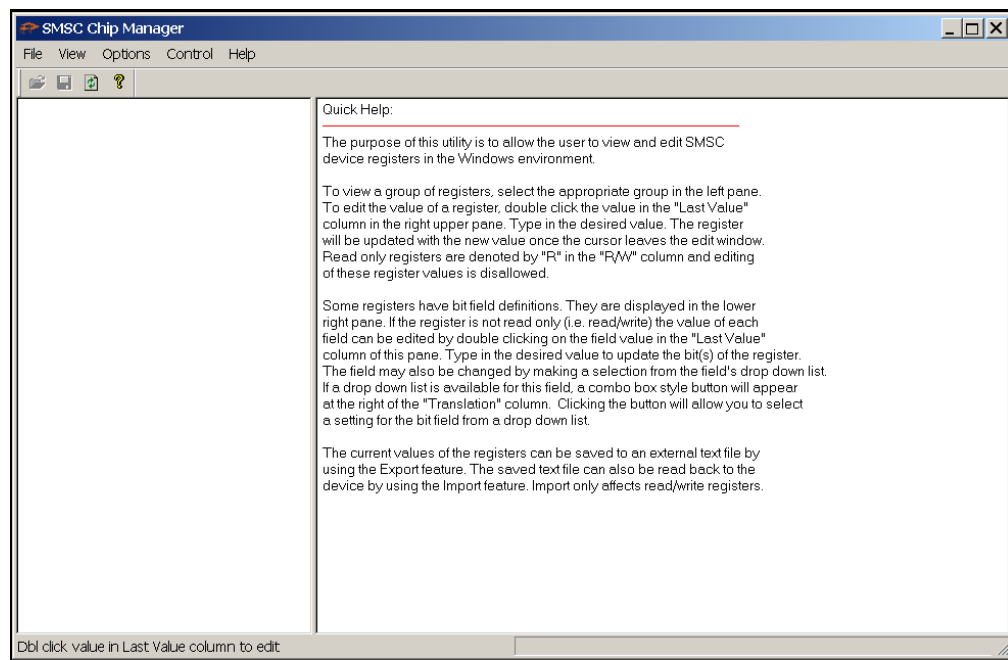
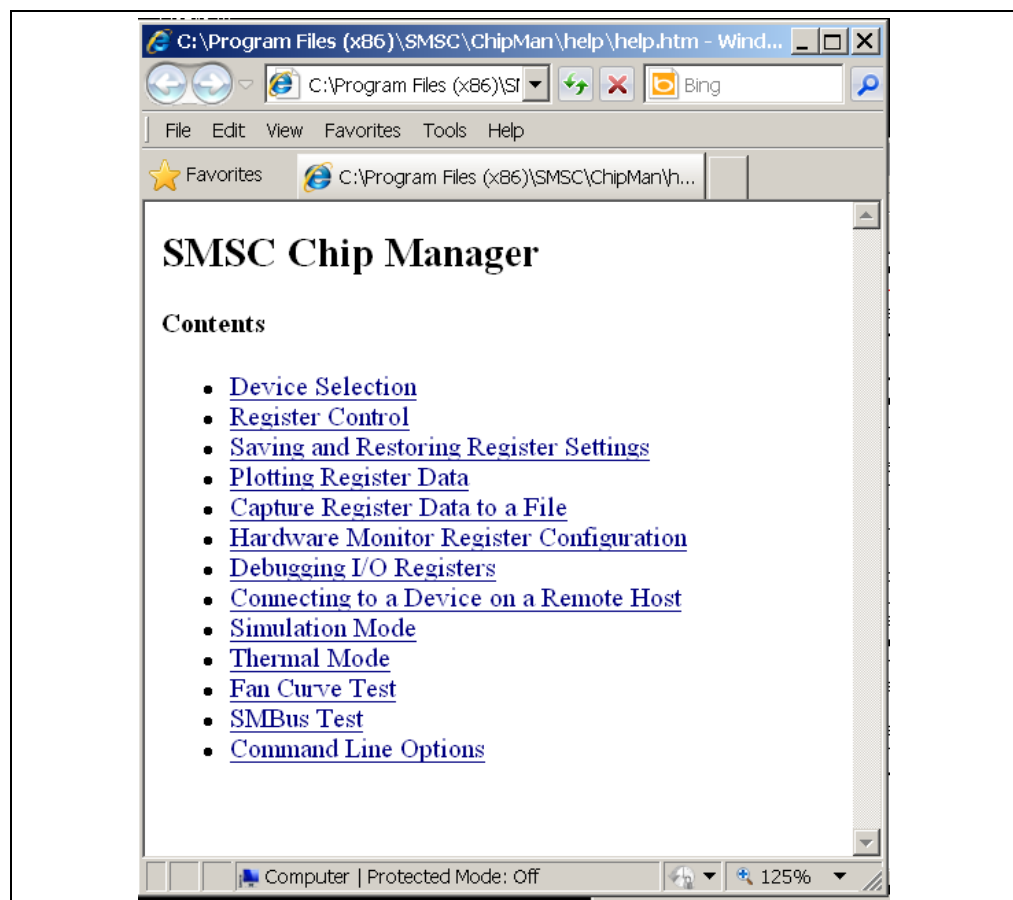

FIGURE 2-7: SMSC Chip Manager with Quick Help Window.
FIGURE 4-1: *Chip Manager Help Screen.*
- Start the software by either going to Windows *Start button* > *All Programs* > *SMSC* > *SMSC Chip Manager* or by double-clicking the software icon (📁) on the desktop. The evaluation board software will initialize and the SMSC Chip Manager with the Quick Help screen appears (see Figure 2-7).
The Chip Manager application enables the user to display temperature readings, set temperature limits and read/write configuration register values. The Chip Manager initially displays a Quick Help screen (see Figure 2-7). For detailed information on application features and usage, select *Help > Contents* to display the HTML-based Help document, as shown in Figure 4-1.